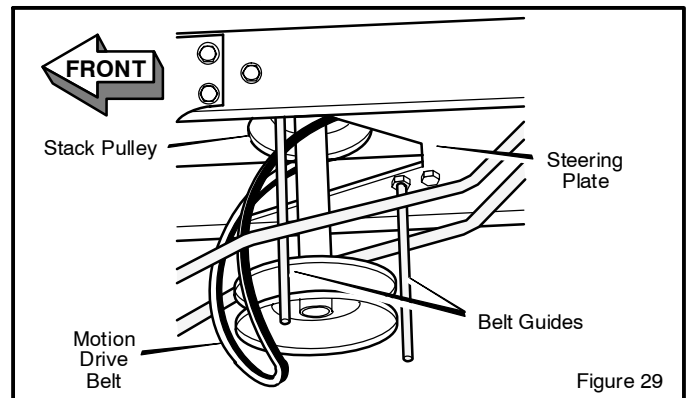

Figure 29
7. To remove the **motion drive belt** from the **stack pulley**, pull the front end of the belt under the **stack pulley** and then back between the stack pulley and the **steering plate** (Figure 29).
1. Slide the **motion drive belt** between the **stack pulley** and the **belt guides** (Figure 29). Install the **motion drive belt** on the top pulley of the **stack pulley**. Make sure the "V" side of the belt is against the pulley.